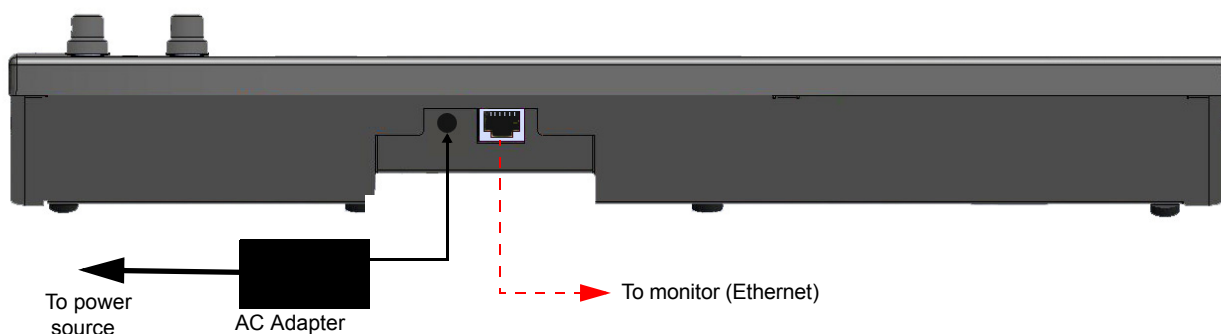

Figure 2-3 Connecting the Remote Rear-Panel Ports
3. Connect the Remote Control to the PRM-4220 using the provided Ethernet cable, and then connect the provided power adapter to an AC power source and connect the Remote to the DC side of the power adapter, as shown in Figure 2-3.